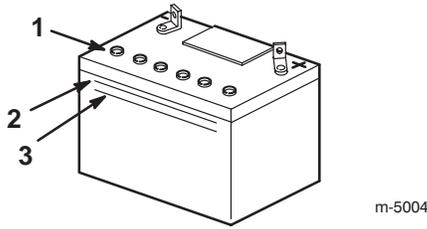

Figure 1
- Slowly pour electrolyte into each battery cell until the electrolyte level is up to the Upper line on the battery case (Fig. 1).
- Add electrolyte, if necessary, until the electrolyte level is up to the Upper line (Fig. 1) on the battery case.